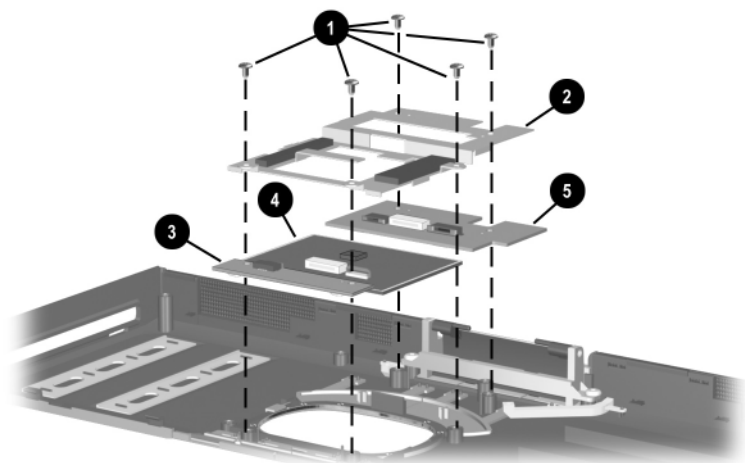

Figure 5-35. Removing the TouchPad Components on Dual Stick Models
12. Remove the five TM2.5 × 5.0 screws ❶ that secure the TouchPad, TouchButton board, TouchPad bracket, and pointing stick board to the palm rest (Figure 5-35).
13. Remove the TouchPad bracket ❷, pointing stick board ❸, TouchPad ❹, and TouchButton board ❺ from the palm rest.